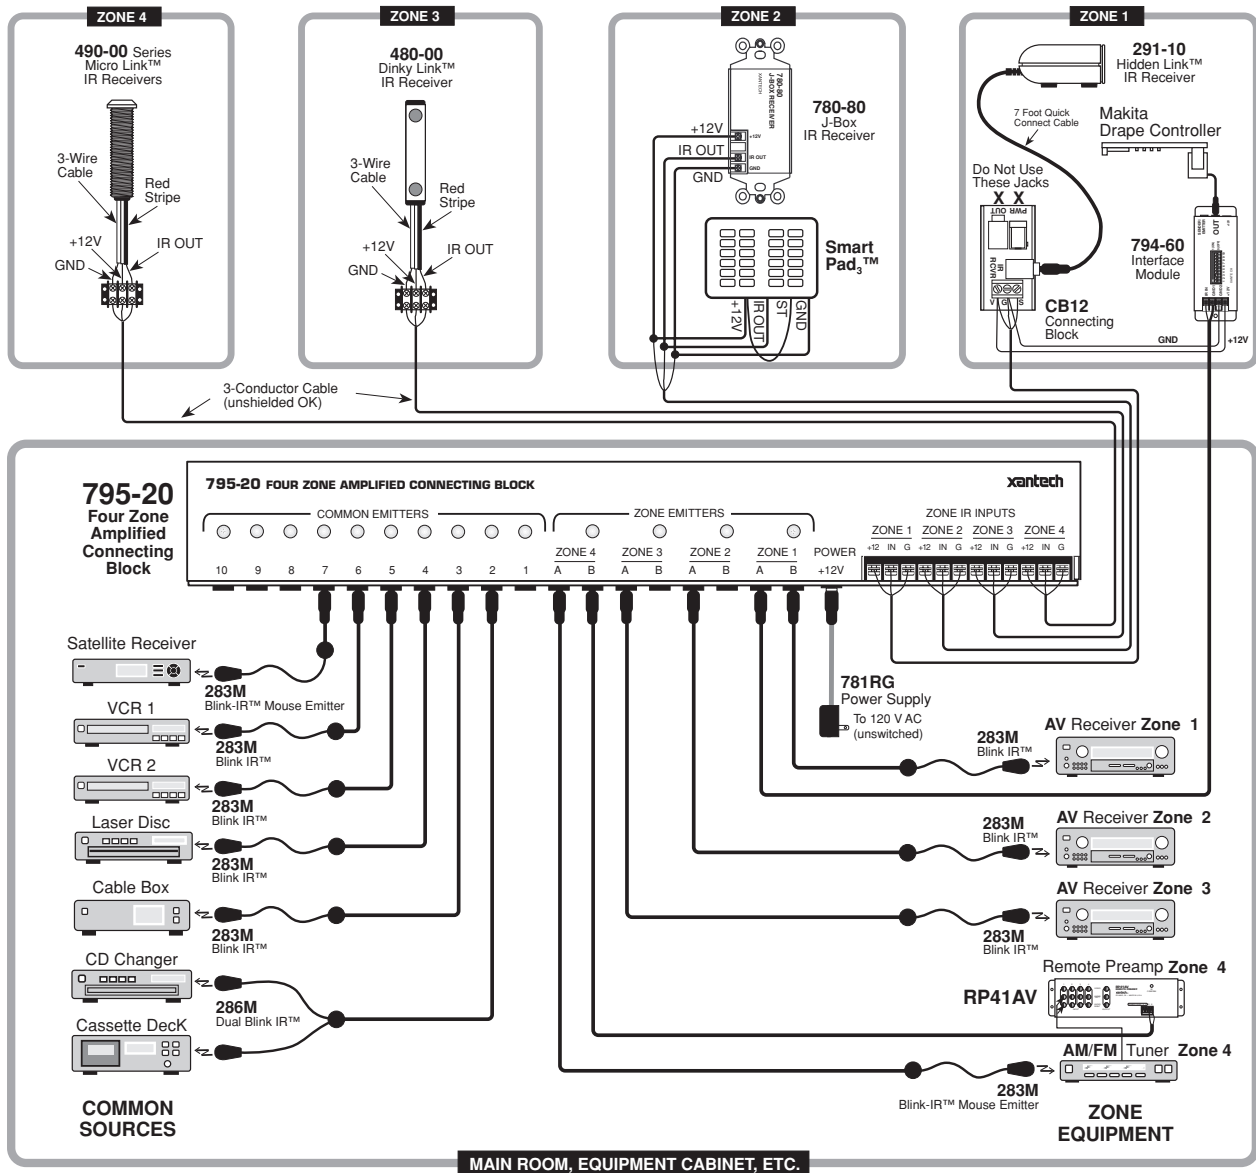

Fig. 2 A Typical 795-20 Four Zone System
Fig. 2, illustrates a typical installation using the 795-20 in a 4-zone system. A variety of Xantech IR Receivers and a keypad are shown in the various zones to illustrate the flexibility of the system. When configuring a system, please keep the following items in mind:
For example, the power supply needed for the system shown in **Fig. 2** is arrived at as follows:
5. The resistors in series with each zone and common emitter port provides current sharing to each emitter and also allows the use of dual emitters in combination with single emitters. You may, therefore, connect any combination of the 282, 283, 284 & 286 series emitters to the zone or common ports (such as that illustrated in Fig. 2 for the common ports), to control the desired number of components.